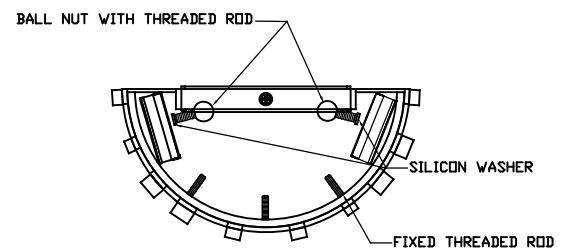

FIGURE-03-01
- 6.1. Install the corner glass using the provided threaded rod with ball nut. See Figure-03-01. Secure the glass using silicon washer.